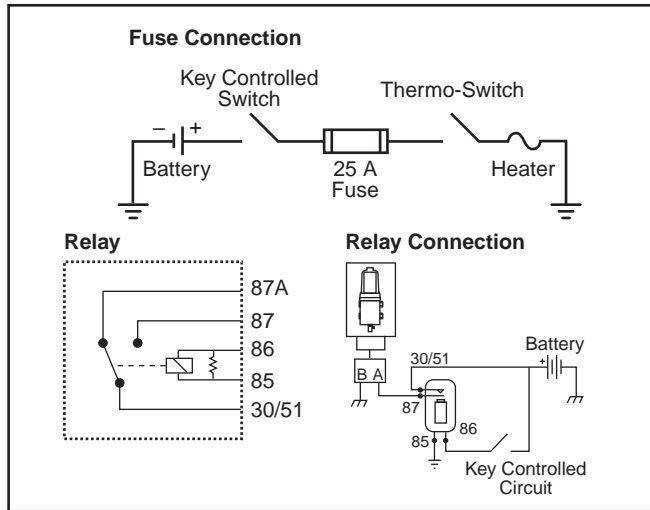

Figure 6 - Fuse and Relay Connections
Step 4 - Connect the Power Lead to the accessory side of the ignition switch. (Use of a 25 A fuse is recommended but not included in Fuel Pro kit. Use a relay if the equipment ignition circuit will not handle a minimum of 20 A. See Figure 6.)